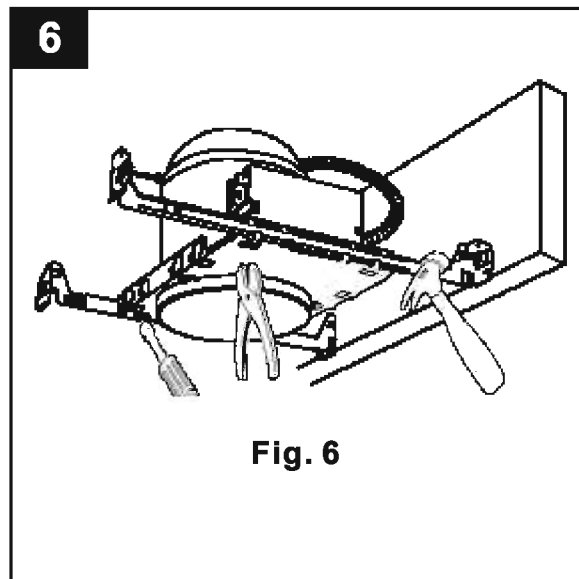

Fig. 6
5. Center fixture over opening. To secure fixture position in ceiling, tighten screw or bend prongs on plaster frame over bar hangers (Fig. 6).
Adjust the fixture for ceiling thickness by loosening the hex screws that attach the round housing to the plaster frame. Bring bottom edge of housing flush with ceiling line, and tighten screws (Fig. 6).
Option 1: For nailing on the joist (Fig. 6).
- Align bottom of bar hanger with bottom of strapping material (Fig. 6).
- Hammer nail (sold separately) through top hole in hanger bar or hammer supplied nail into joist (Fig. 6).
- Hammer nail (sold separately) through the bottom hole in the hanger (Fig. 6).